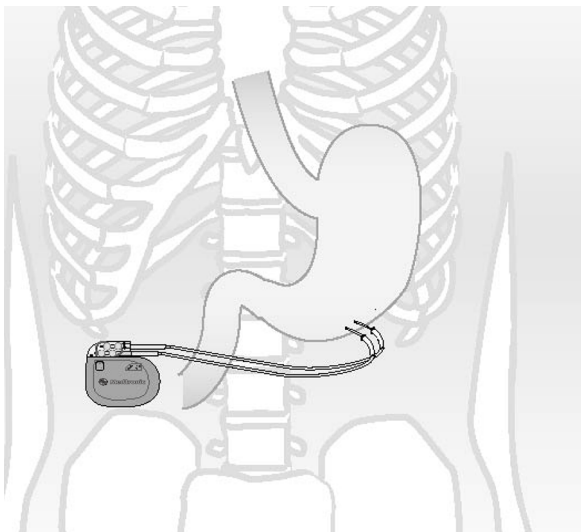

Figure 2. Place leads in the stomach wall at the corpus antrum limit.
3. Use the needle to insert the lead into the circular muscle layer of the stomach at the corpus antrum limit. Place the leads 1.0 cm apart and parallel to each other for optimal stimulation (Figure 2).